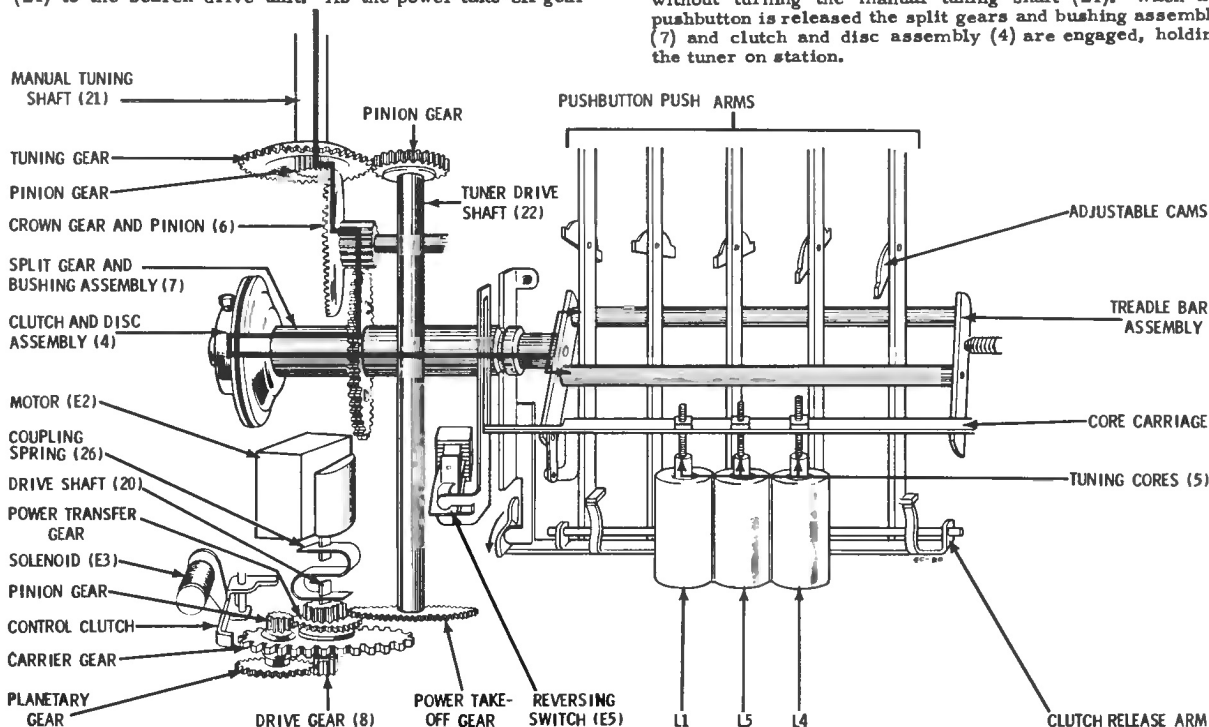
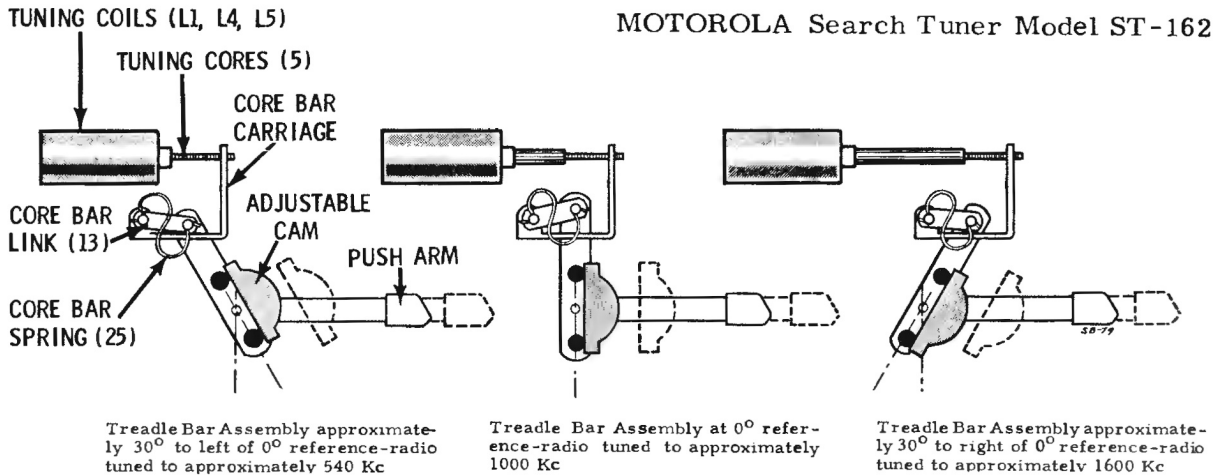

FIGURE 2. MANUAL TUNING
FIGURE 3. TREADLE BAR ASSEMBLY
When the manual tuning shaft is turned, the tuning gear and pinion gear (see Figure 2) rotate the crown gear and pinion assembly (6), which rotates the split gear and bushing assembly (7). As the split gear and bushing assembly (7) is frictionally coupled to the clutch and disc assembly (4), which is fixed to the treadle bar assembly, the treadle bar assembly moves the cores (5) in or out of the coils (L1, L4 & L5). Figure 3 shows that the different angles to which the treadle bar assembly may be moved, correspond to different frequency radio stations. The power transfer sequence is as follows: from the pinion gear of the manual tuning shaft (21) to the crown gear and pinion assembly (6), from the crown gear and pinion assembly (6) to the split gear and bushing assembly (7), from the split gear and bushing assembly (7) to the clutch and disc assembly (4), from the clutch and disc assembly (4) to the treadle bar assembly which moves the cores (5). The pinion gear of the tuner drive shaft (22) contacts the tuning gear of the manual tuning shaft (21). Therefore, when the manual tuning shaft (21) is turned, the tuner drive shaft (22) turns along with it. The tuner drive shaft (22) couples the manual tuning shaft (21) to the search drive unit. As the power take-off gear
This tuner is equipped with five pushbuttons which may be set up in any sequence to tune any radio station within the tuning range of the radio. To set the pushbuttons, the station is first tuned in with the manual tuning knob; this adjusts the angle of the treadle bar assembly (see Figure 3) to an angle corresponding to a radio station. The pushbutton is then unlocked by pulling it out; this actually unlocks the adjustable cam on the push arm. When the pushbutton is depressed, the cam is locked to the angle of the treadle bar assembly and remains at that angle until changed. Therefore, whenever a pushbutton is depressed it will return the treadle bar assembly to the angle to which the cam was set.